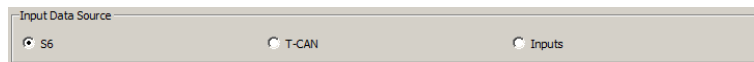

Figure 13 – Selecting incoming data source for MasterCAN Display 35
**1)** For creating a screen, select necessary field in **Input Data Source** area (SPN 521291) situated in the upper part of **CAN Monitor** area (see figure 13):